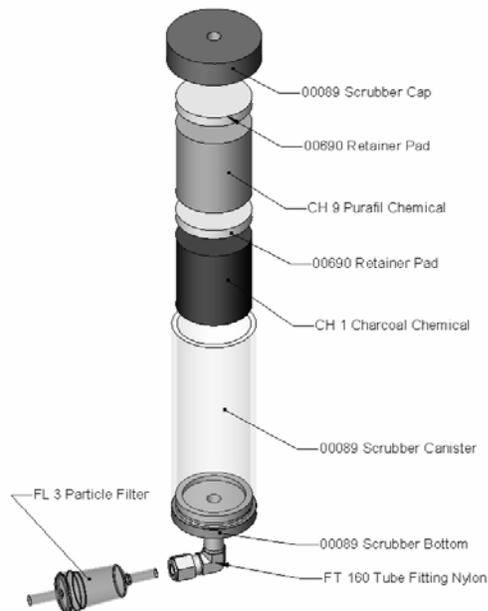

Figure 9-2: Zero Air Scrubber Assembly
1. Locate the scrubber on the outside rear panel. Figure 9-2 shows an exploded view of the scrubber assembly.